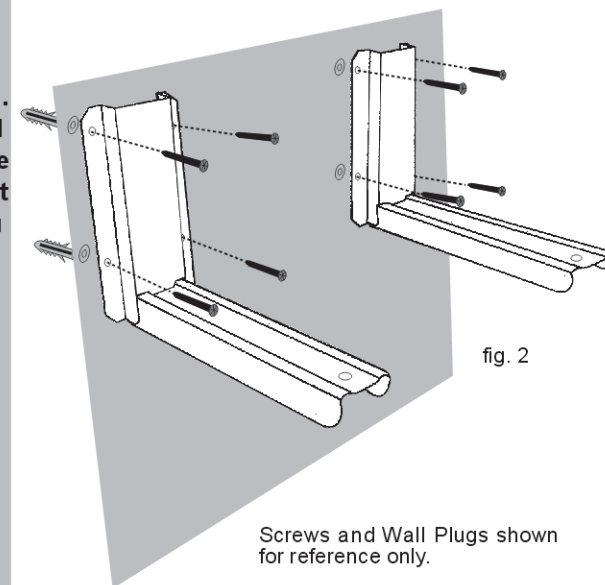

fig. 2
2. Use Wall Plugs to fit to the holes and then screw in through the unit to secure it to the wall. See fig. 2.